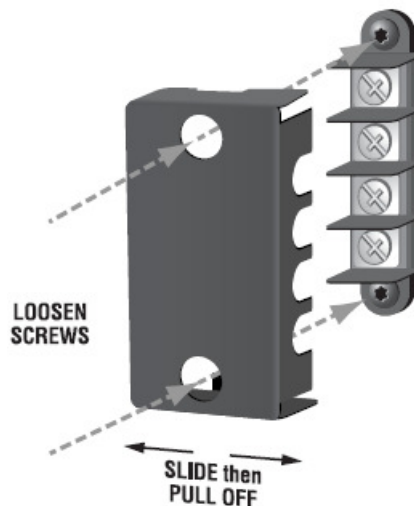

Figure 2.4 How to Remove the Two-Holed Barrier Block Cover
1. Loosen screws inside top and bottom holes of cover (see Figure 2.4).